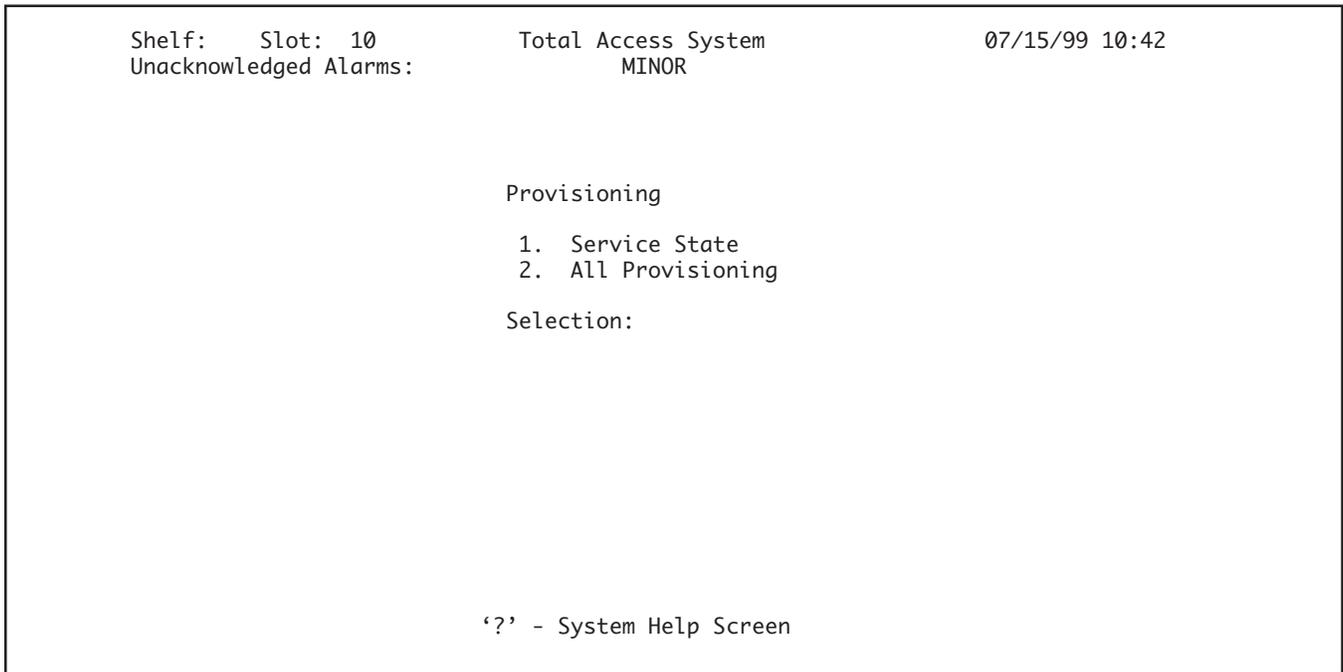
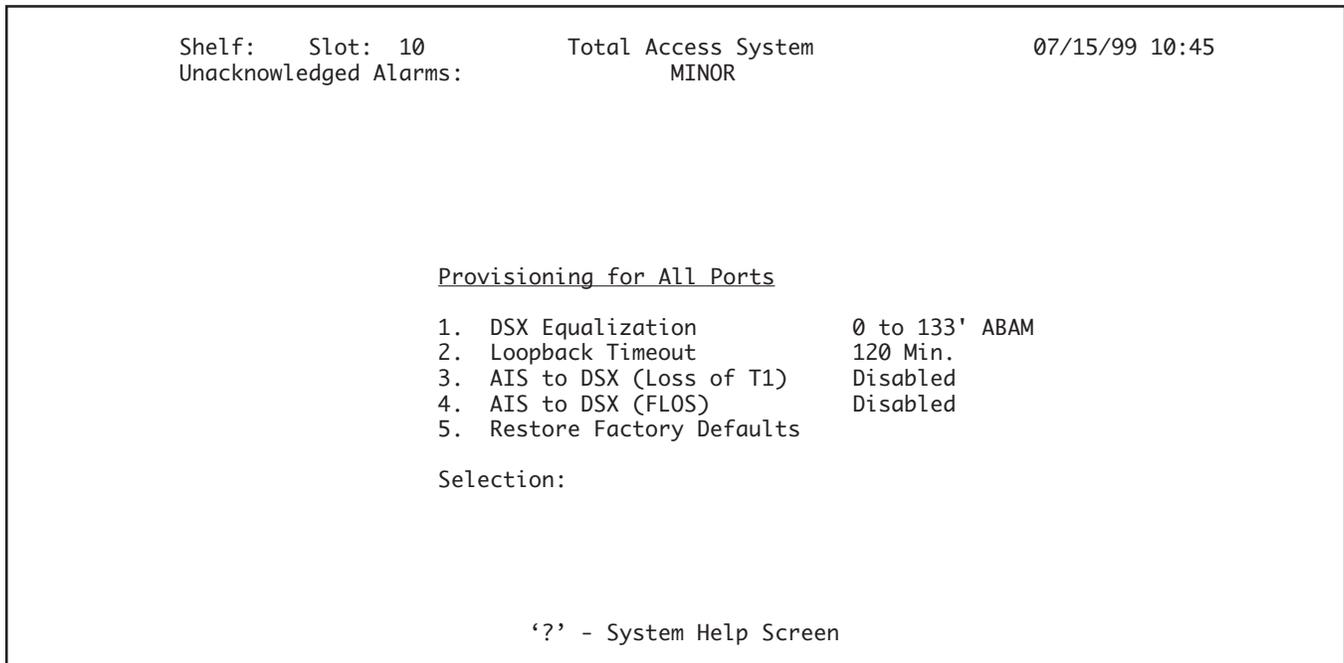
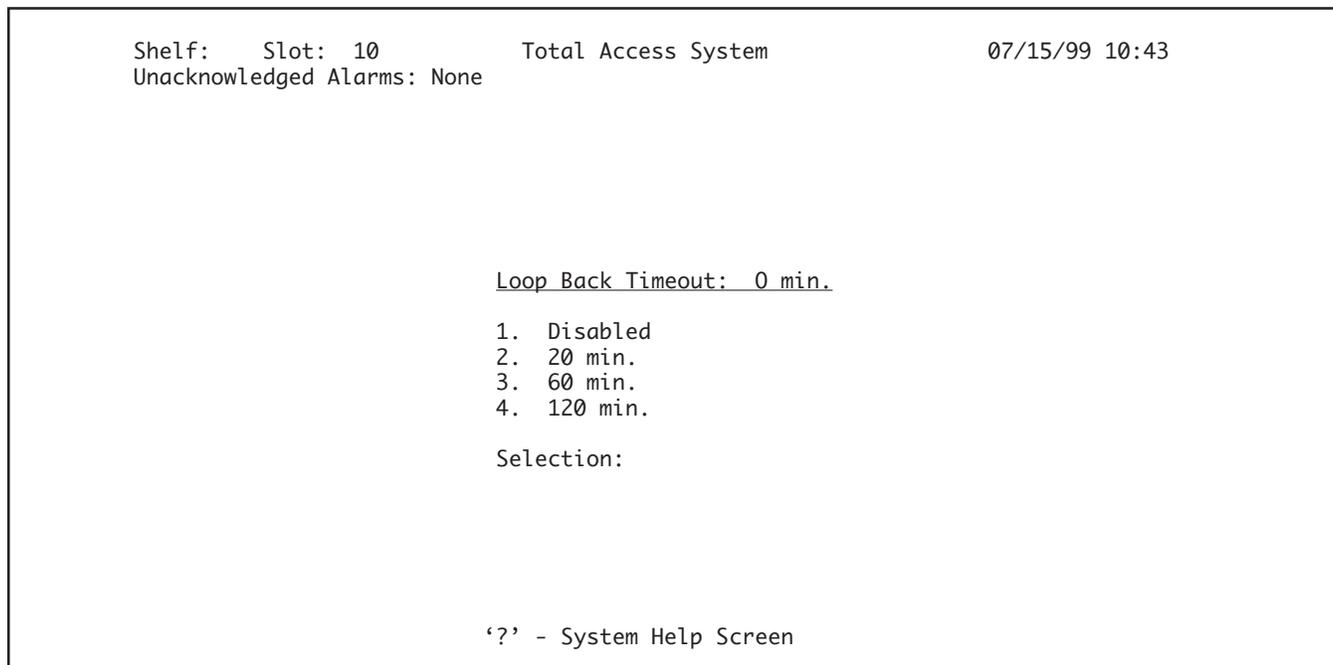

Figure 7. Provisioning Screen
Figure 10. Provisioning of All Ports Screen
Figure 12. Loopback Timeout Screen
1. From the Fiber Main Menu Screen, type “2” and press Enter to select Provisioning. The Provisioning Screen (**Figure 7**) will appear.
From the Provisioning screen (Figure 7) type “2” and press Enter to select All Provisioning. The Provisioning of All Ports Screen (Figure 10) will appear.
1. From the Provisioning of All Ports screen (Figure 10), type “2” and press Enter to select Loopback Timeout. The Loopback Timeout Screen (**Figure 12**) will appear.